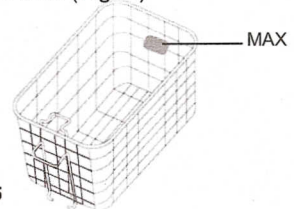

Fig. 5
3. The frying basket has a "MAX" line on it. **Do not** fill the basket with food over this line. (Fig. 5)